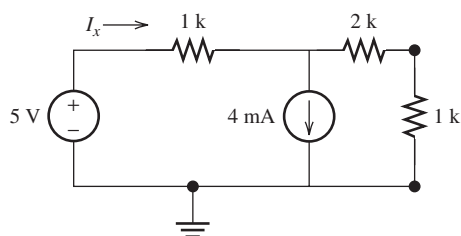

FIGURE P3.64 Circuit for Problem 3.64.
3.64 (A) Find I_x in Figure P3.64 using the principle of superposition.
3.65 (A) Use the principle of superposition to find the power dissipated in the 2-kΩ resistor in Figure P3.64.